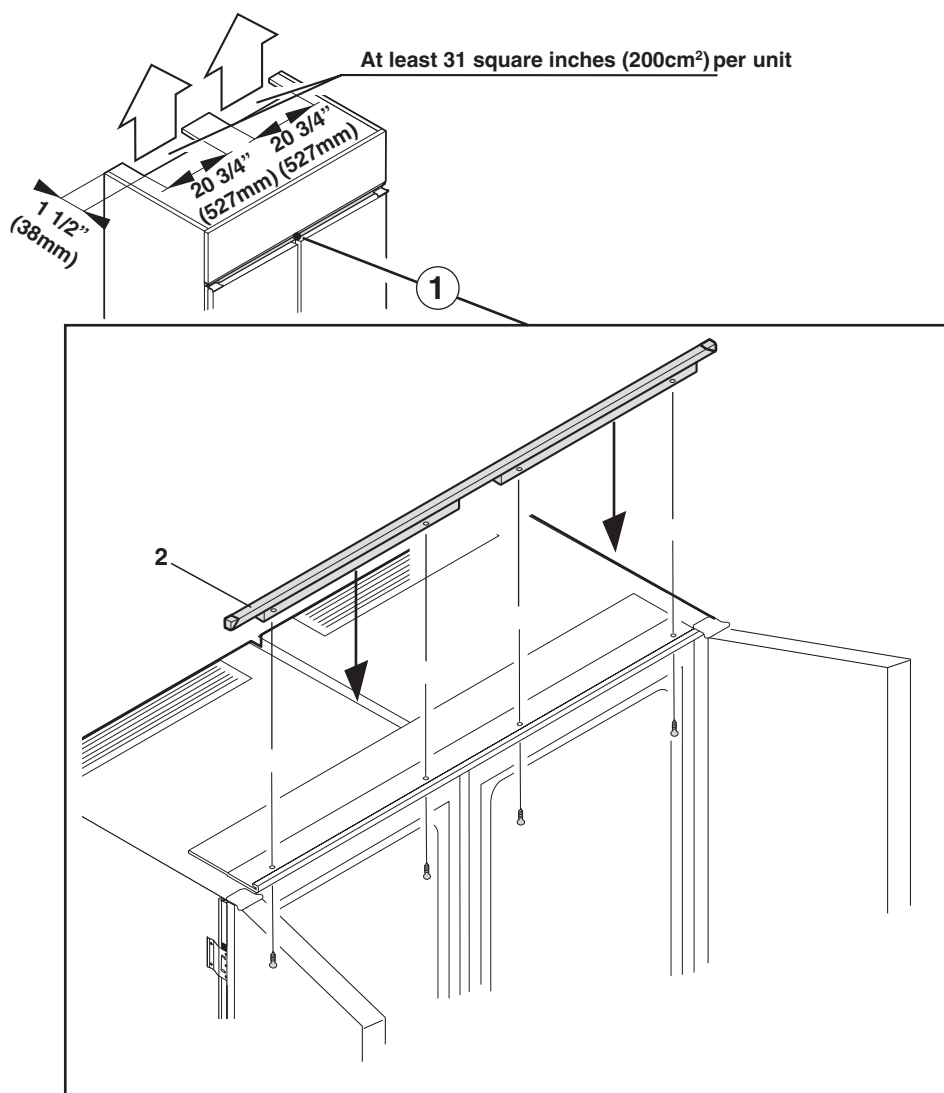

Figure 33
- **Figure 33:** Screw the installation frame (2) to the appliance through the attachment brackets.